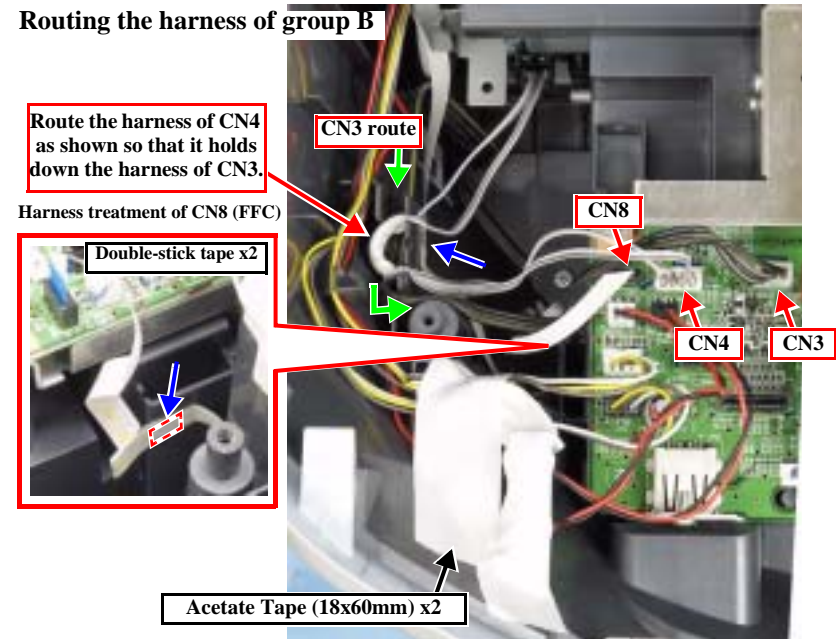

Figure 4-18. Routing the Harness of Group B
5. Fasten the ferrite cores with tape. (*Fig. 4-18*)
6. Route the harnesses of group B in the order of the power supply harness (CN3) → PF Encoder (CN8) → CD-R Sensor (CN4), and connect them to the circuit board. (*Fig. 4-18*)